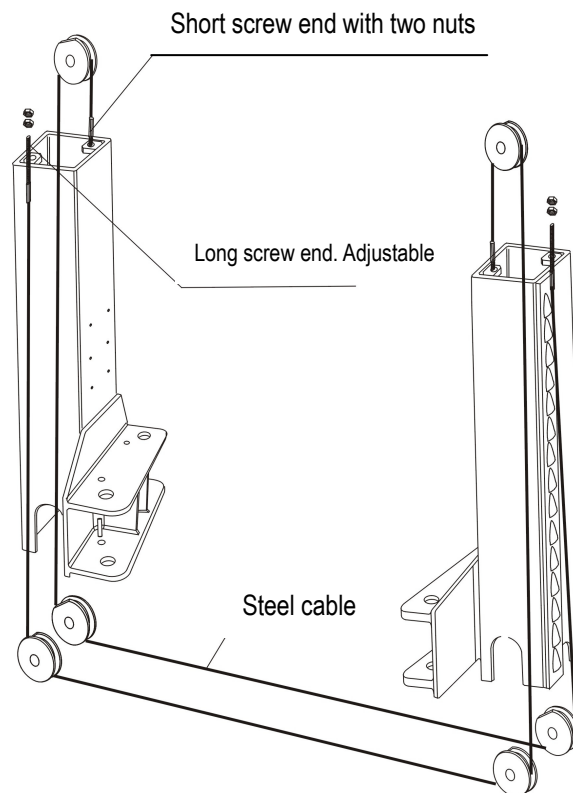

Fig. 8
position from the floor (same height). Install the two steel cables as shown in Fig. 8.
- ✧ The short screw must be installed at the correct position as shown in Fig.8